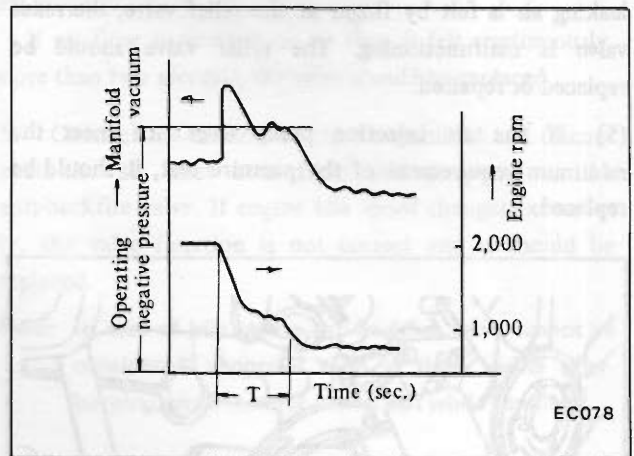

Fig. EC-32
3. It is normal that time required in lowering speed from 2,000 rpm to 1,000 rpm ("T" in Figure EC-32) is approximately three seconds.
4. Thereafter, both speed and manifold vacuum decrease, or when one to two seconds are elapsed, both of them stop lowering. Figure EC-32 shows these phenomena.